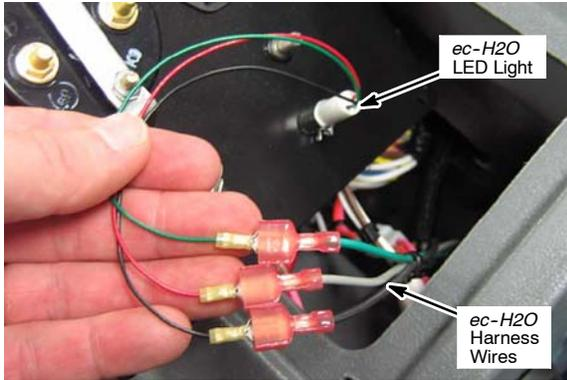

Fig. 18
- Connect the routed ec-H2O harness wires to the LED light (GRAY to RED, GRN to GRN and BLK to BLK) (Figure 18).